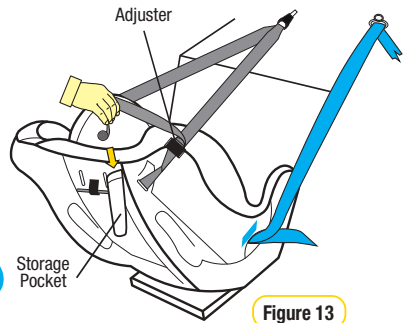

Figure 13
**Step 8:** Store any excess webbing, from the top tether strap, in the storage pocket provided on the restraint (refer Figure 13).
After correctly installing the restraint in your car, roll up and place any excess tether strap in the storage pocket provided (refer Figure 13).